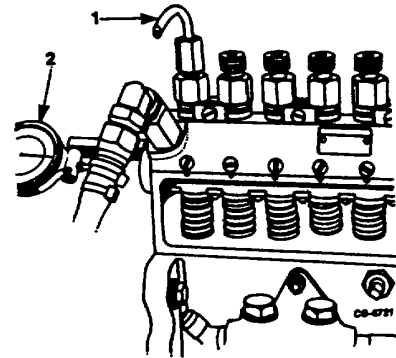

Figure 7. Checking Start of Delivery (No. 1 Pumping Element)
a. With rack at Start Fuel position and with delivery valve needle, spring and filler removed from No. 1 element, install drip spout (made from used injection line) in No.1 pumping element (Figure 7).